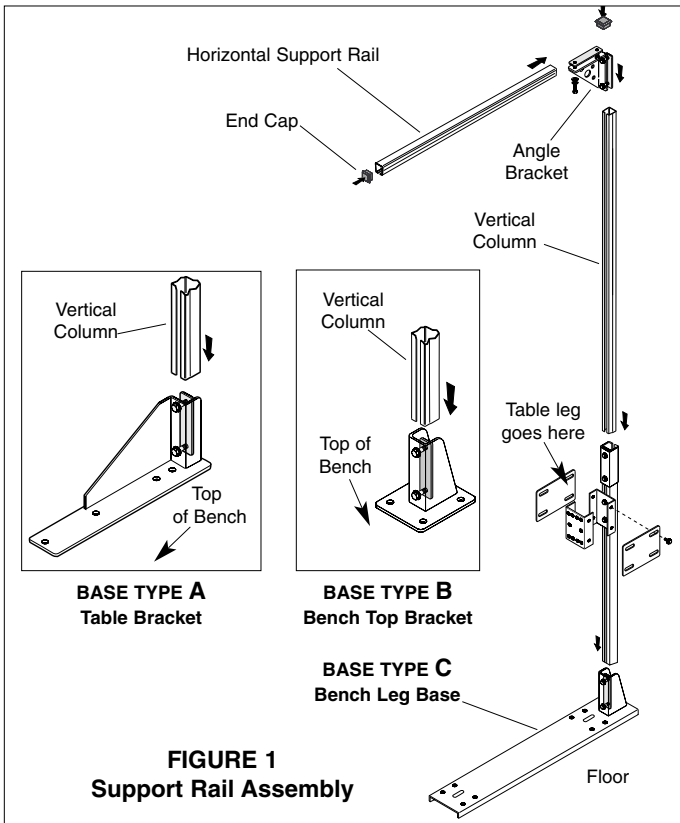

FIGURE 1
STEP 1– Assemble support structures as shown in Figure 1.